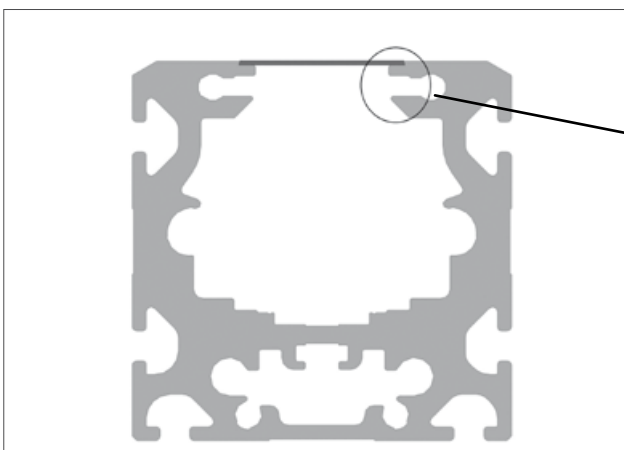

Figure 4.17 — Cover strip cross section
5. Insert new cover strip. The cover strip has a trapezoidal cross-section. When fitting the new cover strip, make sure that the wide area is below (Figure 4.17). Under moderate pressure with the hand or a smooth, not sharp-edged tool, the cover strip snaps into the groove and flushes to the upper profile edge.